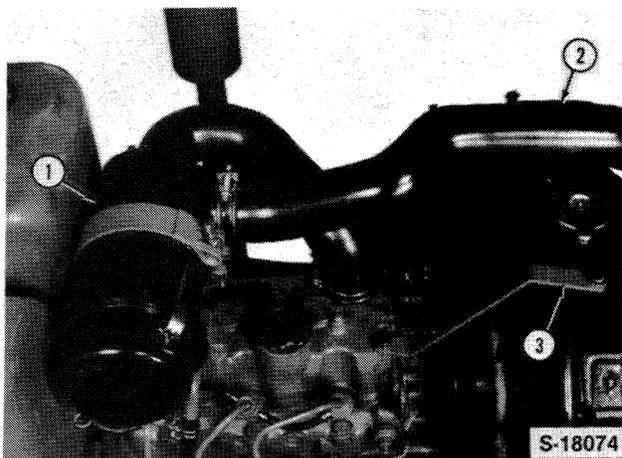

Figure 2
2. **Model 1310 only:** Remove the air cleaner assembly along with the air cleaner hoses, Figure 2.
5. **Model 1310 only:** Remove the radiator top support brace from the cylinder head, Figure 2.